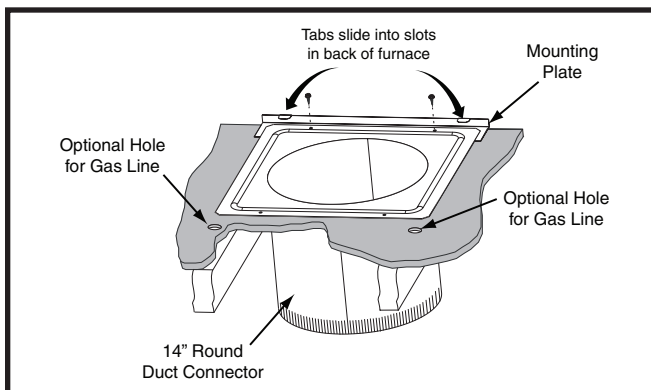

Figure 16. Round Duct Connector
2. Install the mounting plate (Figure 16 \(page 18\)) under the back side of the duct connector. **NOTE:** Make sure the screw holes are aligned in both components.